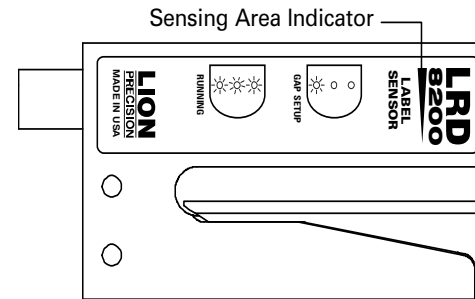

Fig. 1
- Labels must pass under the "Sensing Area" indicator (see fig. 1).
- Use Adjust buttons to light the "Gap Setup" light on the light bar (see fig. 1, 2).
- Run labels through the sensor and verify that the three "Running" lights (see fig. 1, 2) are active (on or flashing) while labels are passing through the sensor. If not, use Adjust buttons until they are. More lights than the three "Running" lights may be active while running labels. If more than the three "Running" lights are active, use adjustments to center the display.